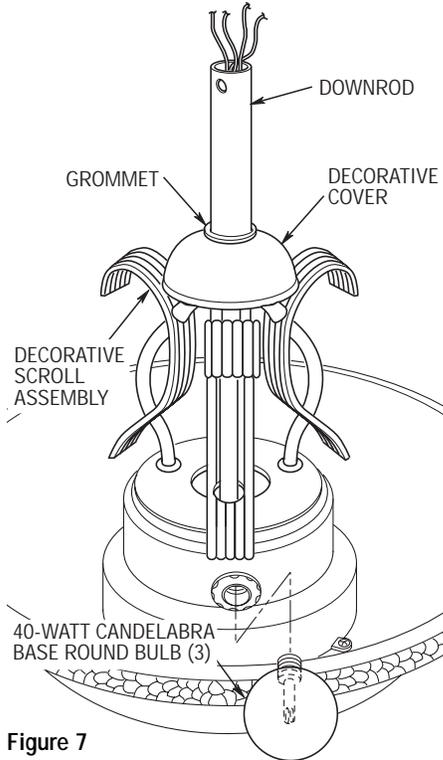

Figure 7
- 11. Make sure the grommets are properly installed in the decorative scroll assembly and in the decorative cover. Slide the decorative scroll over the downrod until it rests on the motor housing. (Figure 7). Then slide the decorative cover over the downrod until it rests on the top of the decorative scroll.
- 14. Screw the three 40-watt (maximum) candleabra base round bulbs into the sockets in the motor housing (Figure 7).